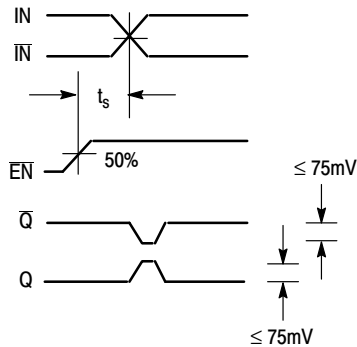

Figure 3. Setup Time
5. The setup time is the minimum time that EN must be asserted prior to the next transition of IN/ \bar{IN} to prevent an output response greater than $\pm 75\text{ mV}$ to that IN/ \bar{IN} transition (Figure 3).
- The setup time is the minimum time that $\overline{\text{EN}}$ must be asserted prior to the next transition of $\text{IN}/\overline{\text{IN}}$ to prevent an output response greater than $\pm 75\text{ mV}$ to that $\text{IN}/\overline{\text{IN}}$ transition (Figure 3).